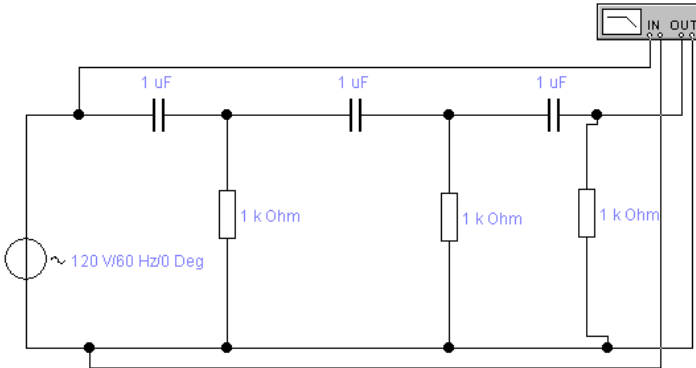

Figure 8.7 – Three-Way HPF.
19. Draw a pattern of fig. 8.7.